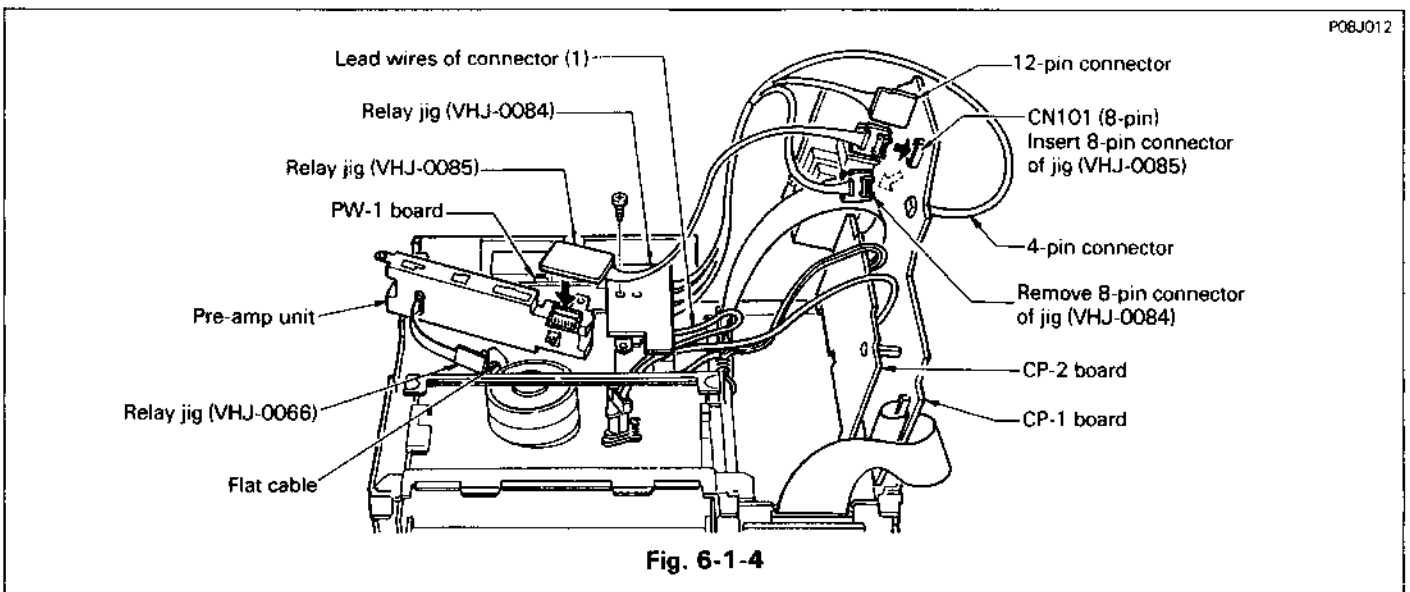

Fig. 6-1-4
2. Connect Relay jig (VHJ-0084) excepting 8-pin connector between the PW-1 board and CP-1 board as shown in Fig. 6-1-4. Fix the relay jig with screw if necessary.